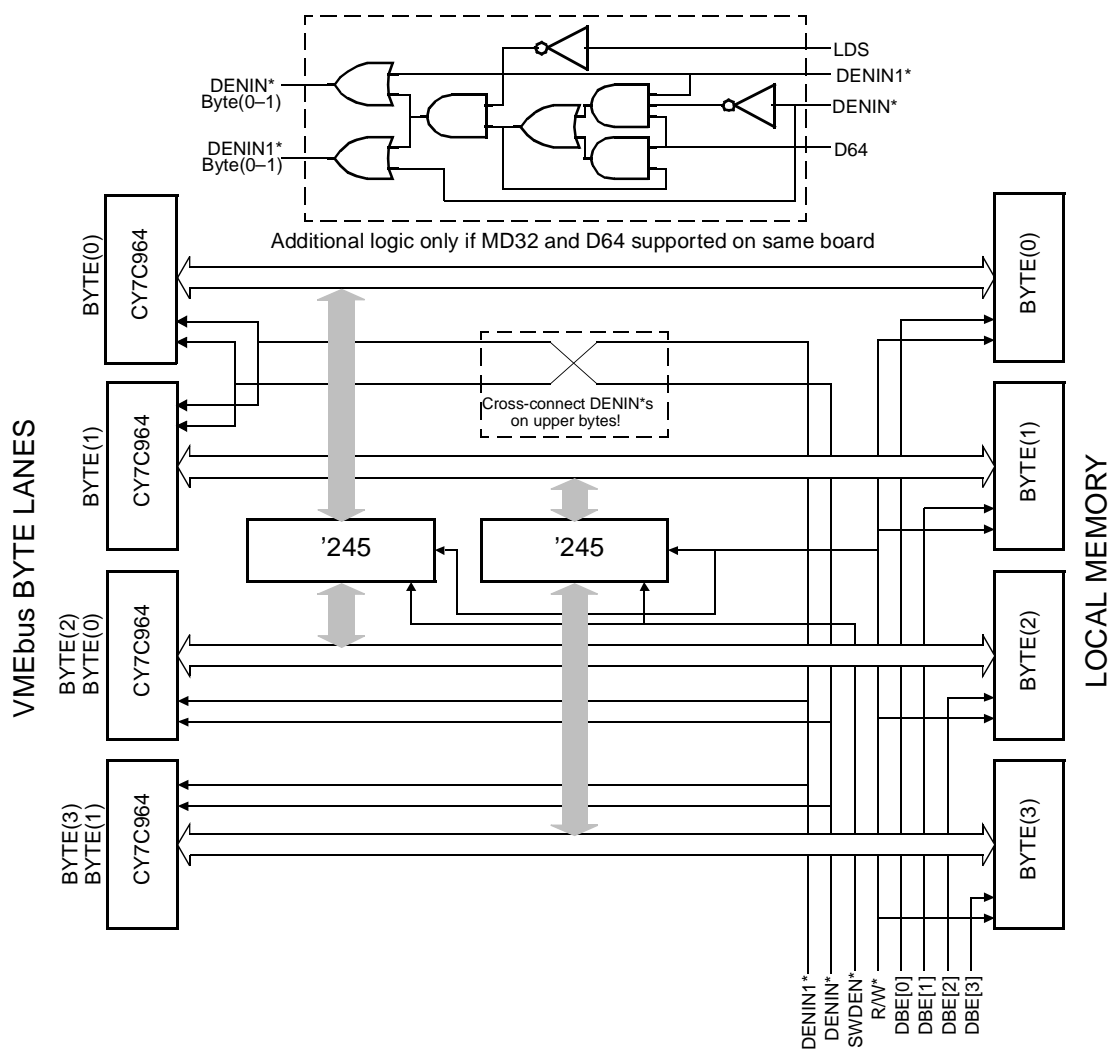

Figure 3-24. Swap Buffer Design
The CY7C960 is designed to control the swap buffering necessary for handling D8 and D16 VMEbus transactions in combination with 32-bit local memory. *Figure 3-24* illustrates how VMEbus byte lanes relate to local memory. Note that the CY7C960 coordinates control of SWDEN* with DENIN*/DENIN1*. The CY7C964 Byte(0) and Byte(1) drivers are turned off during slave write transfers when SWDEN* is active. Because DENIN*/DENIN1* are used as latch control signals during multiplexed data transactions (D64 and MD32) DENIN* signaling to CY7C964 Byte(0) and Byte(1) must be modified by external logic IF (and only IF) and board is to handle BOTH D64 and A40/MD32 slave write transactions. The required circuitry is shown at the top of the figure below.